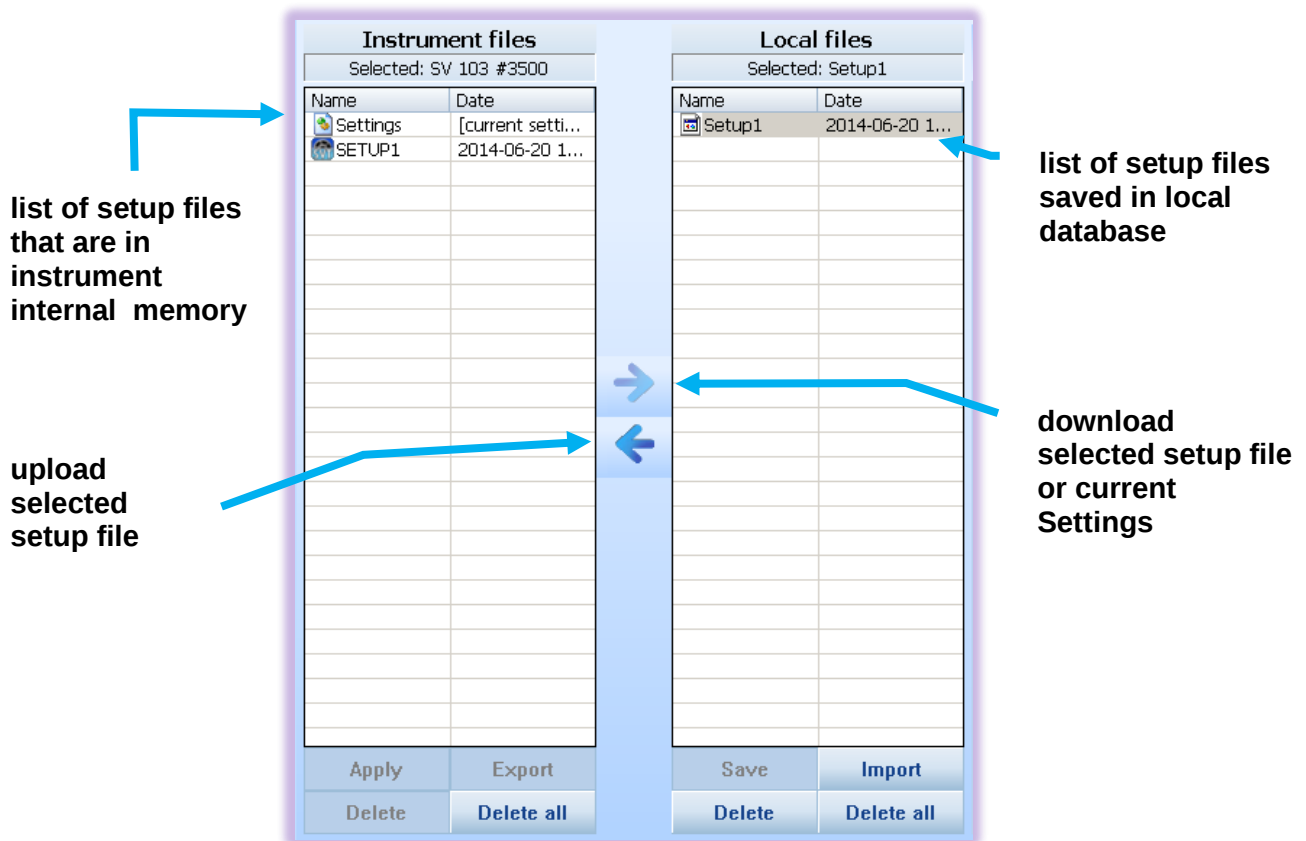

Figure 5-4 Setup files manager panel
1. Select the **"Settings"** row position in left side panel named **"Instrument files"** (Figure 5-4).
2. Click the right arrow pictogram to download instrument **"Settings"** configuration setup to **"Local files"** right side panel (Figure 5-4).
5. Once configured, come back to setups file manager (Figure 5-4) and click the just edited **"Settings"** in **"Local files"** panel.
6. Next click the "save" button in bottom area of the panel (Figure 5-4).